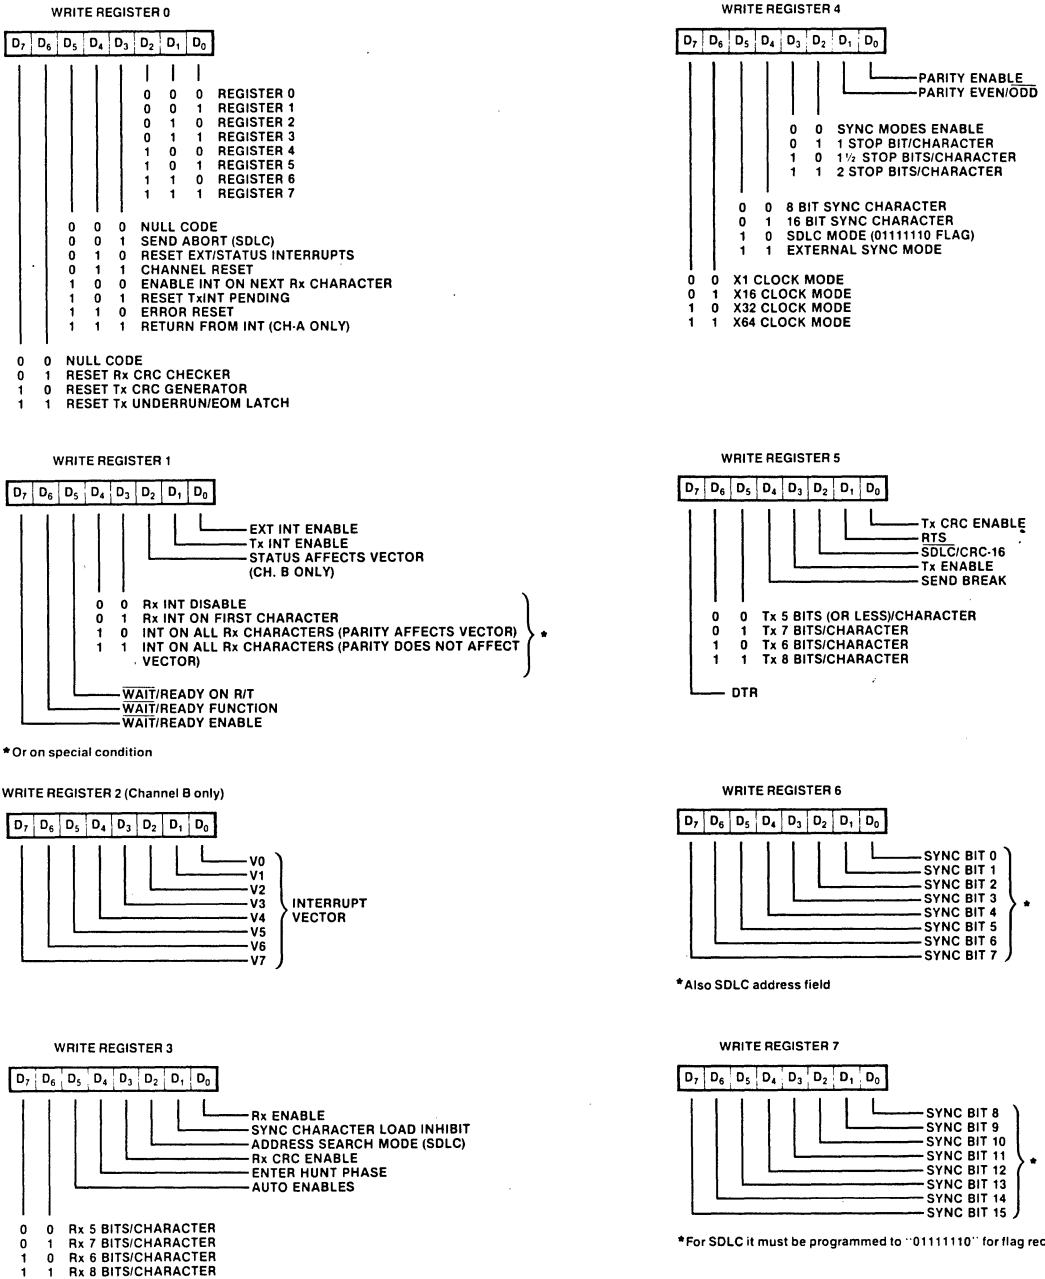

Figure 18: SIO Write Registers
**Write Registers (Figure 18).** The SIO channel B contains eight write registers while channel A contains only seven that are programmed to configure the operating modes and characteristics of each channel. With the exception of WR0, programming the write registers is a two step opera-